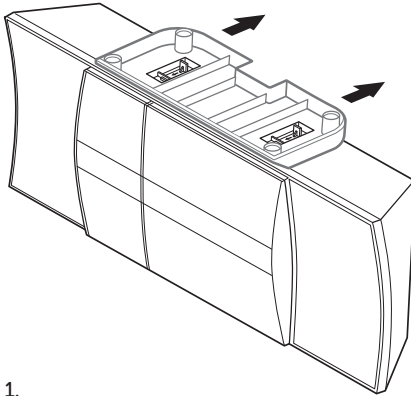

Fig 1.
3. Press the two tabs marked with an arrow towards you and upwards. As you do this push the stand upwards & away from you to release the locking mechanism. **(Fig 1)**